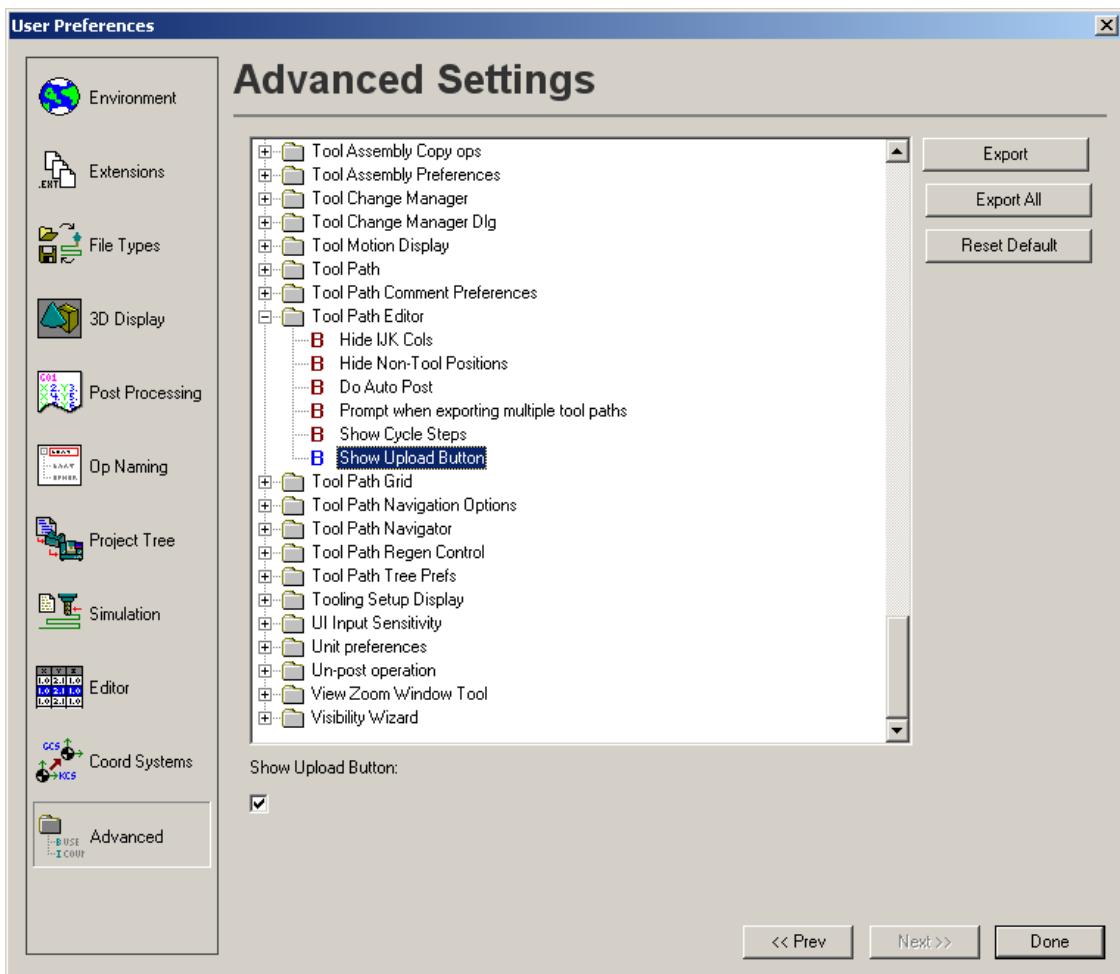

Figure 3: User Preference Manager
- 1) Open the User Preference Manager (figure 3) by selecting 'Options' from the 'Tools' menu